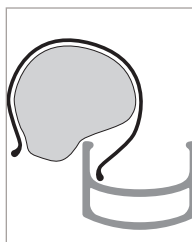

FIGURE 3.41
5. Reach up into the tire and remove the inner tube (Figure 3.41).